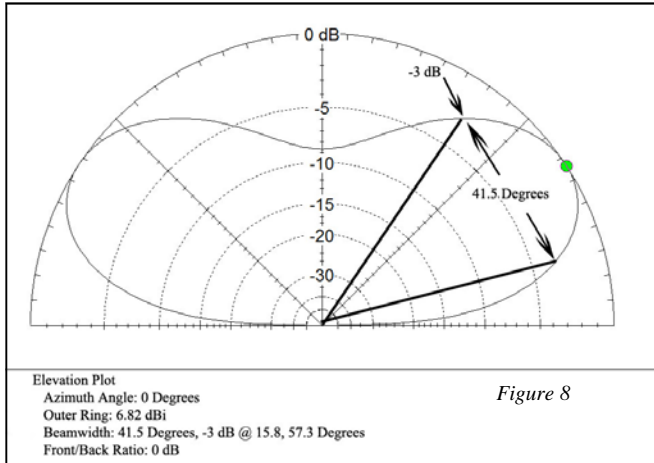

Figure 8
3. Beamwidth – The width in degrees between the -3 dB points of the lobe. See Figure 8, next page. The beamwidth of our dipole is 41.5 degrees at the -3dB points of the lobe.